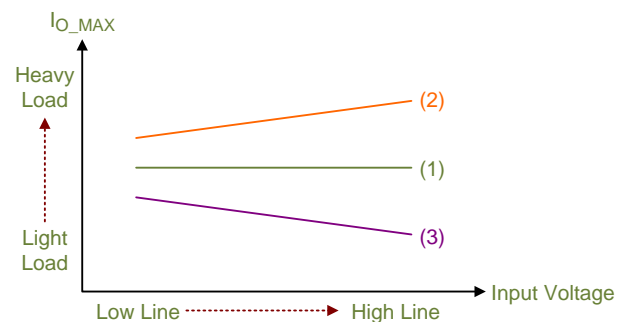

Figure 6. Output Current Limits for Over-Current Protection
To start with,  $R_{PDC} = 470\Omega$  and  $C_{RC} = 100pF$  can be used as reasonable initial setting for line compensation. In Figure 6, curve (1) is an ideal output current limit curve for over-current protection, which remains constant from low line to high line input voltages. If the output current limit curve is like curve (2), the resistance  $R_{PDC}$  should be increased. However, if the output current limit curve is like curve (3), the capacitance  $C_{RC}$  should be increased. The output current limit  $I_{O\_MAX}$  under different line voltages can be optimized by adjusting the propagation delay resistor ( $R_{PDC}$ ) or the propagation delay capacitor ( $C_{RC}$ ) to achieve accurate over-current protection.